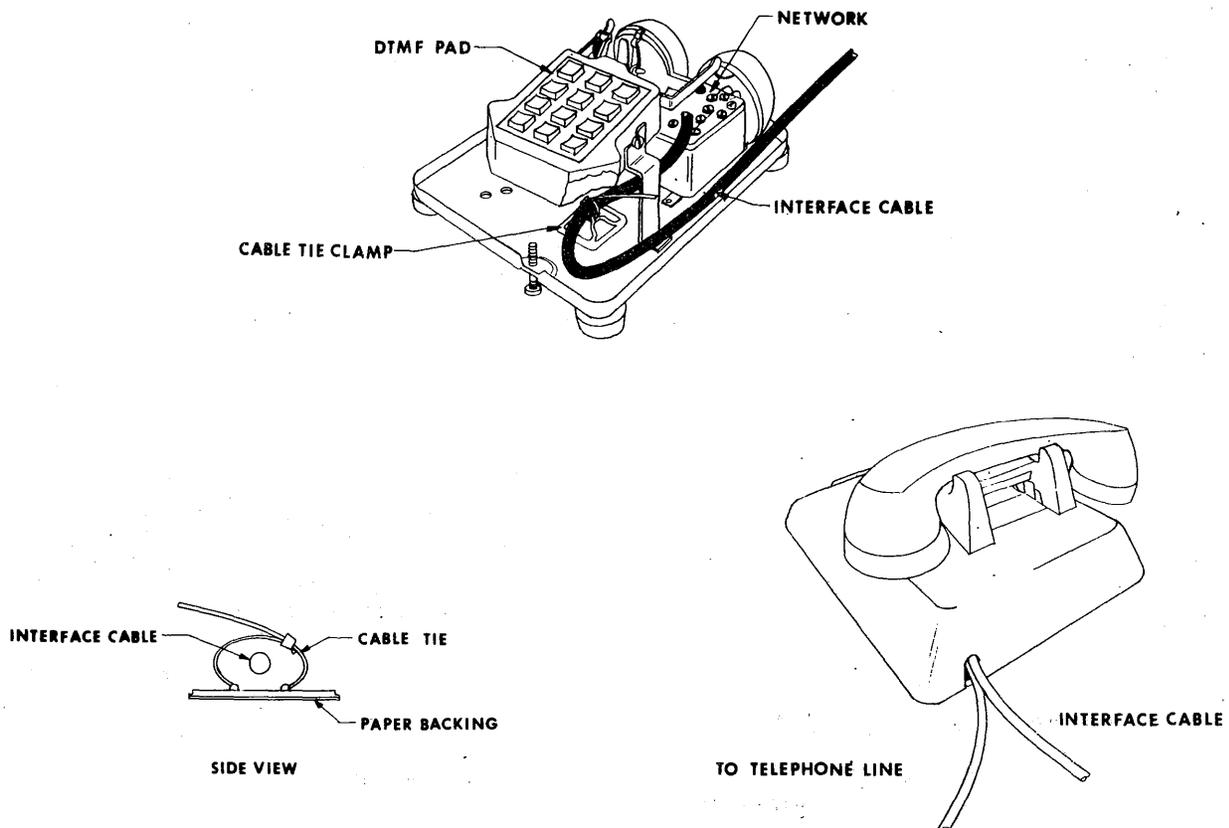
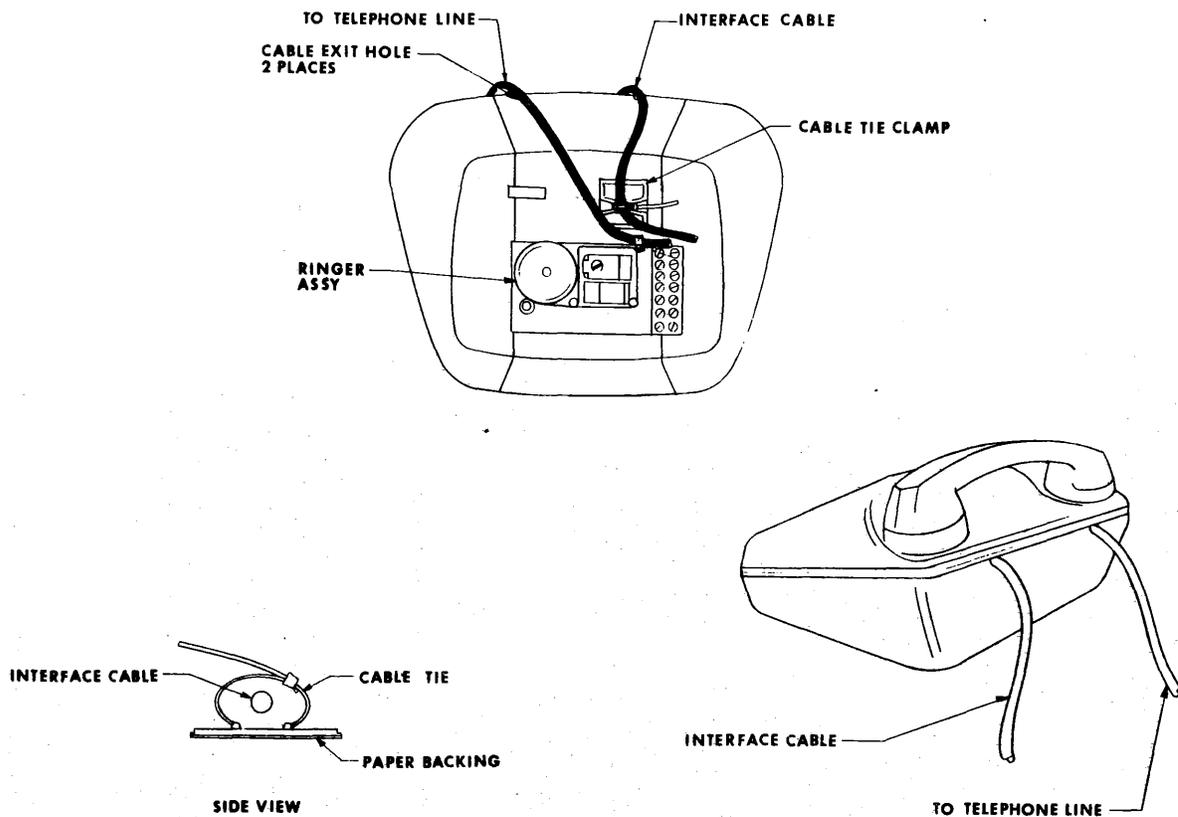

Figure 2-3. Connecting Interface Cable to Standard Desk Sets
Figure 2-4. Connecting Interface Cable to AE890 Desk Set
- (a) Attach interface cable to telephone set per figures 2-3 and 2-4. Figure 2-3 gives instructions for standard telephones. Figure 2-4 is for Automatic Electric type 890 or phones of similar design.